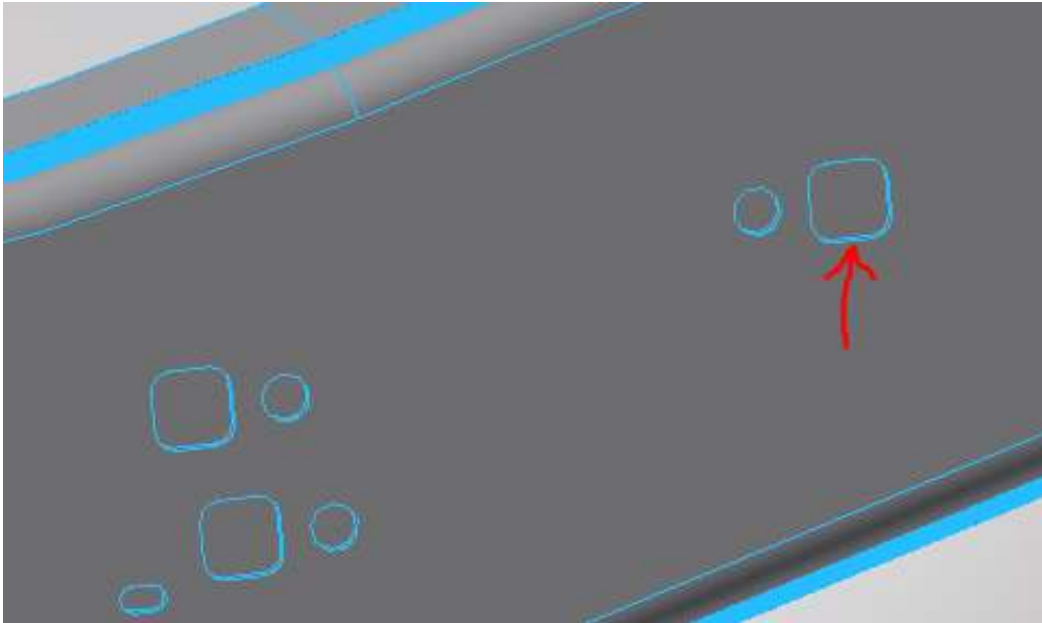

Figure 4
1. Remove fuel cooler from inside frame. Hoses should not have to be removed, just bolts taken out to be free of the frame. We will be using one of the existing mounting points for our bracket. Clip will need to be removed from square hole. See (Fig.4) for location.